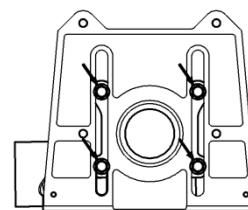

Figure 3a
3. Remove the faceplate/feet from trim kit box and align the faceplate slots with the gasket and fitting holes. Secure the (4) $\frac{1}{2}$ [13] bolts, from 66955-332-9 hardware bag, using a torque wrench (25-35 lb-ft of torque).
- For ZF1201, see **Figure 3a**.